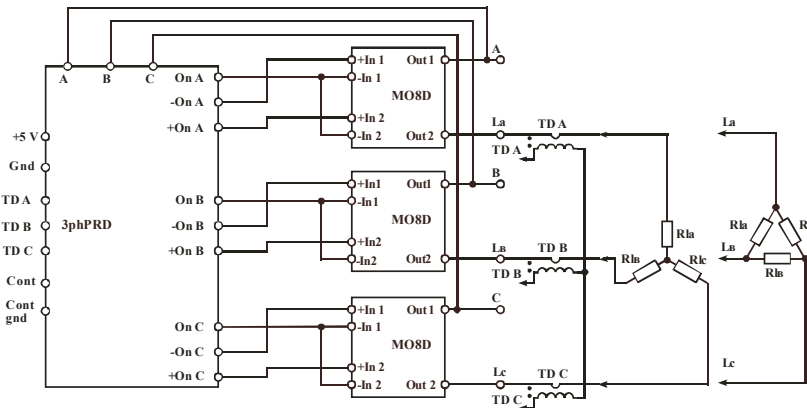

Figure 4 – Connection circuit to 3phPRD load together with three modules MO8D
3phPRD connection circuit to load circuit is represented at Figures 4 – 6.
Attention! For correct functioning of driver protection and current protection it is necessary to follow strictly phase connection to the driver and winding connection polarity of current transformer (TD) in accordance with Figures 4, 5 and 6.